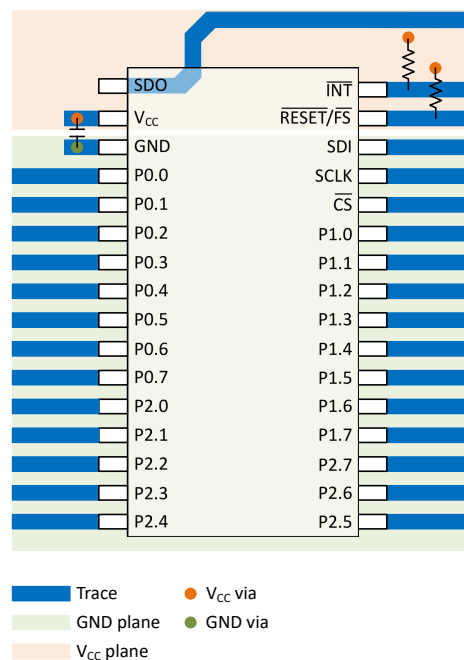

Figure 8-6. TXE8124 Layout
In all PCB layouts, it is a best practice to avoid right angles in signal traces, to fan out signal traces away from each other upon leaving the vicinity of an integrated circuit (IC), and to use thicker trace widths to carry higher amounts of current that commonly pass through power and ground traces. By-pass and decoupling capacitors are commonly used to control the voltage on the supply pins, using a larger capacitor to provide additional power in the event of a short power supply glitch and a smaller capacitor to filter out high-frequency ripple. These capacitors must be placed as close to the TXE8124 as possible. These best practices are shown in Figure 8-6.
For the layout example provided in Figure 8-6, it is possible to fabricate a PCB with only 2 layers by using the top layer for signal routing and the bottom layer as a split plane for power and ground (GND). However, a 4 layer board is preferable for boards with higher density signal routing. On a 4 layer PCB, it is common to route signals on the top and bottom layer, dedicate one internal layer to a ground plane, and dedicate the other internal layer to a power plane. In a board layout using planes or split planes for power and ground, vias are placed directly next to the surface mount component pad which needs to attach to power or GND and the via is connected electrically to the internal layer or the other side of the board. Vias are also used when a signal trace needs to be routed to the opposite side of the board, but this technique is not demonstrated in Figure 8-6.